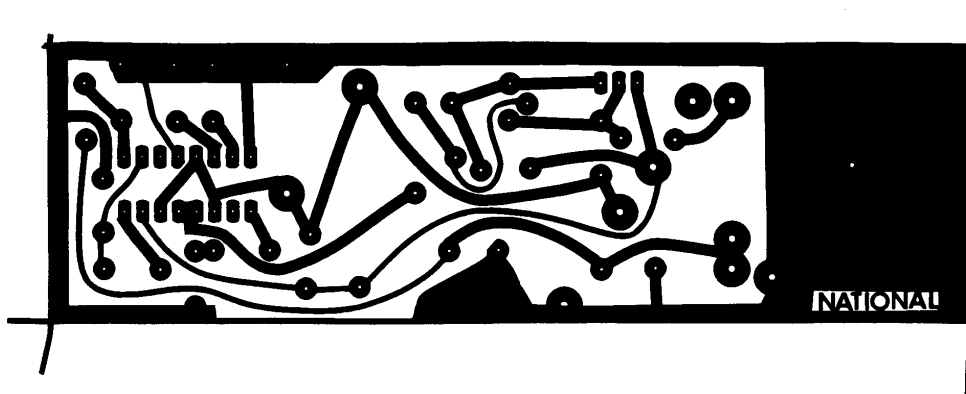

FIGURE 16. 5V, 1 Amp Switching Regulator, Foil Side
*Figure 16* and *17* show a PC board layout and stuffing diagram for the 5V, 1A regulator of *Figure 15*. The regulator's performance is listed in *Table I*.